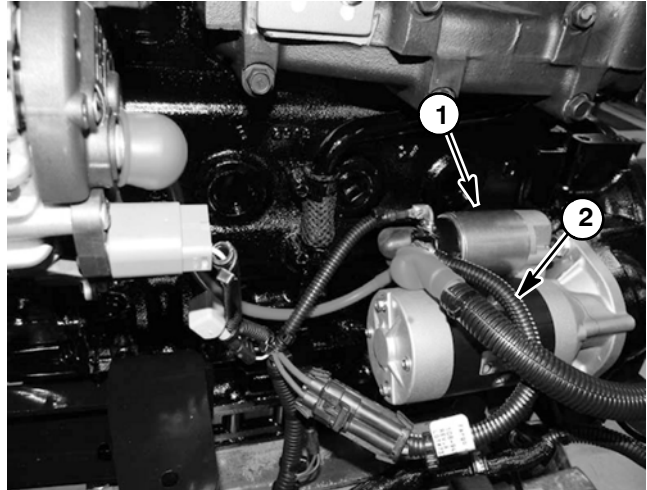

Figure 35
Your Groundsmaster uses two (2) fusible links for circuit protection. These fusible links are located in a harness that connects the starter B+ terminal to the wire harness (Fig. 35). If either of these links should fail, current to the protected circuits will cease. Refer to wire harness drawings in Chapter 10 – Foldout Drawings for additional fusible link information.